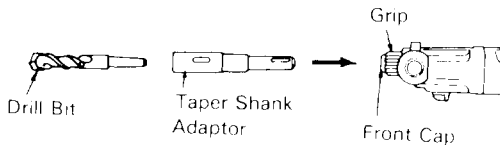
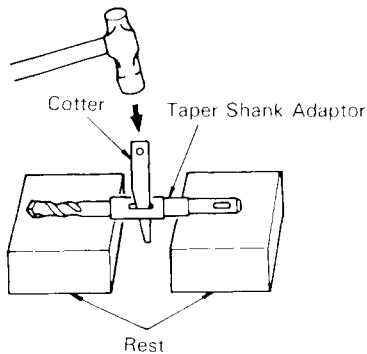

Fig. 16
Fig. 17
- (1) Mount the taper shank adaptor to the rotary hammer. (Fig. 16)
- (2) Mount the drill bit (taper shank) to the taper shank adaptor. (Fig. 16)
- (3) Turn the switch ON, and drill a hole in prescribed depth.
- (4) To remove the drill bit (taper shank), insert the cotter into the slot of the taper shank adaptor and strike the head of the cotter with a hammer supporting on the rest. (Fig. 17)